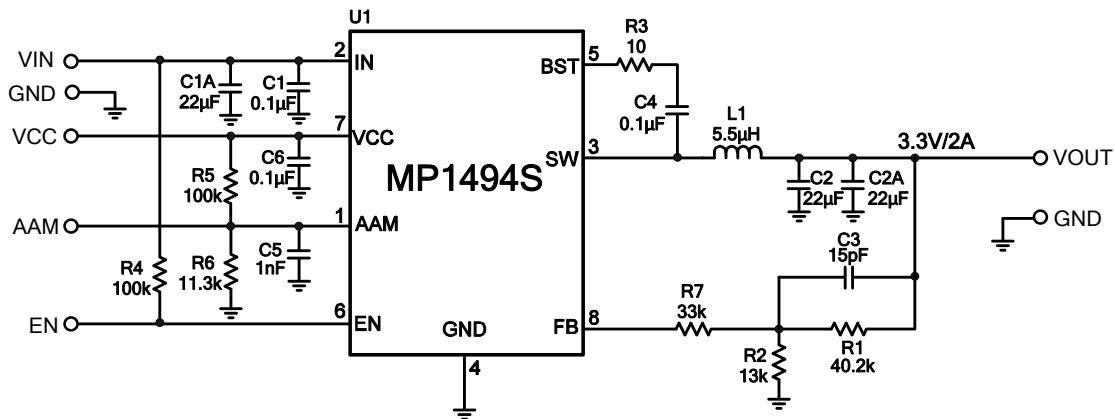

Figure 8: 12VIN, 3.3V/2A Output
- 8) The recommended layout is based on the Figure 8 Typical Application circuit on the next page.
The detailed application schematic is shown in Figure 8. The typical performance and circuit waveforms have been shown in the Typical Performance Characteristics section. For more device applications, please refer to the related Evaluation Board Datasheets.